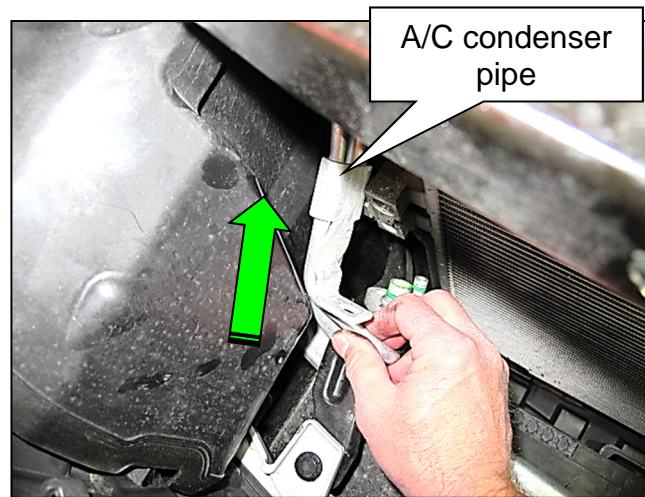

Figure 20
- d. Thread the new A/C condenser pipe through the radiator core support (Figure 20).